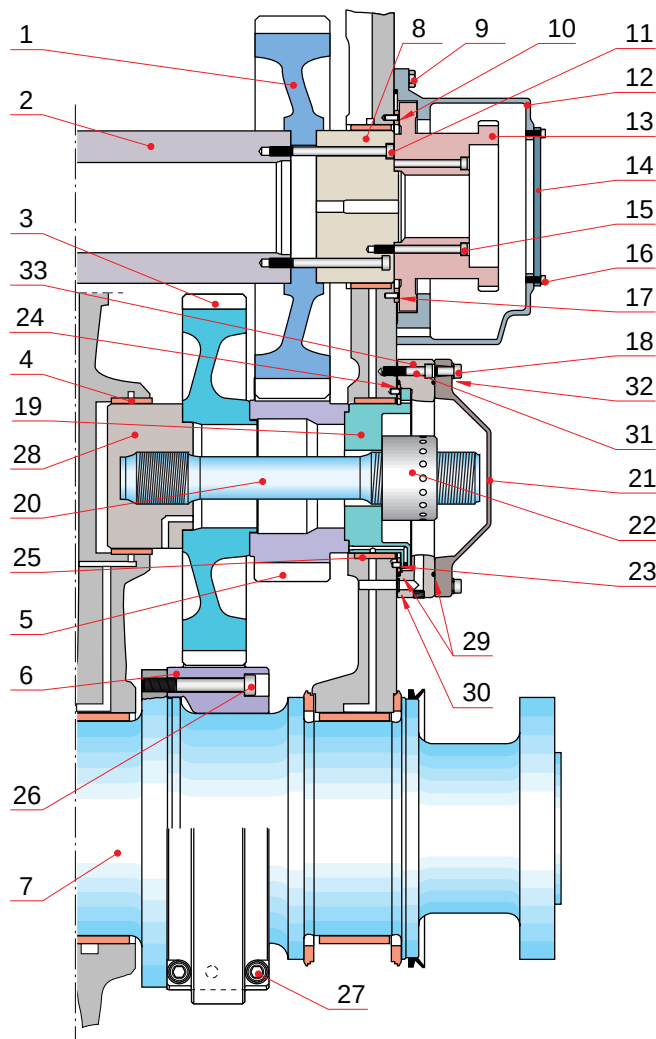

Fig 13-2
**7 Unscrew the cover fastening screws (18).** Remove intermediate gear wheel cover (21) and outer O-ring (29), see Fig 13-2.
**9 Apply hydraulic tool 2V86B341 (800112)** to the fastening bolt (20).